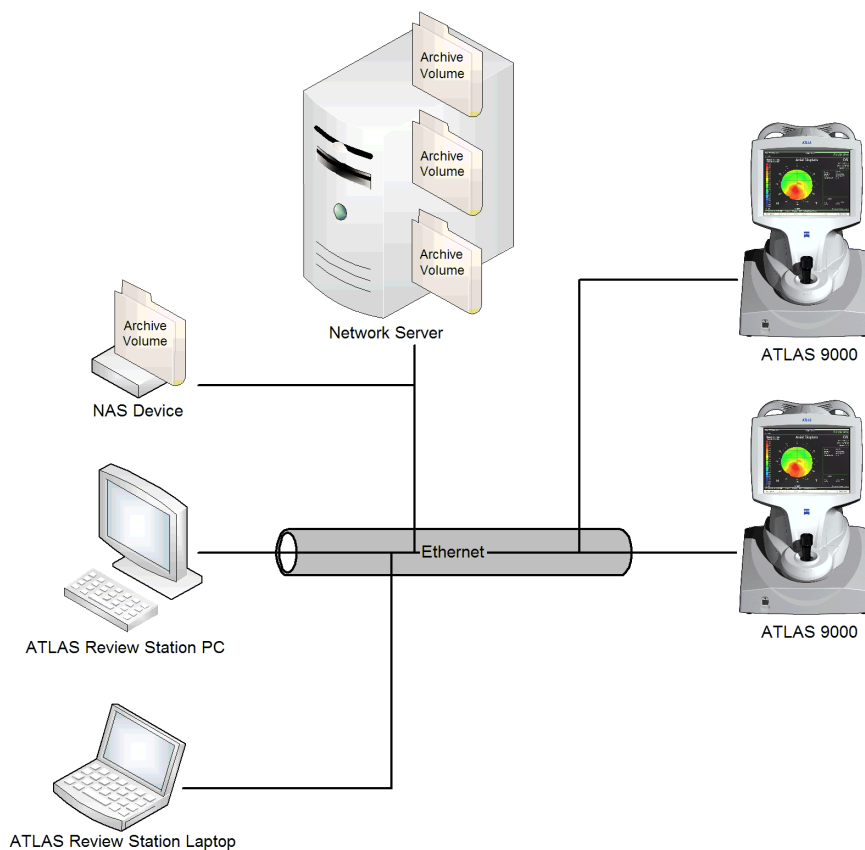
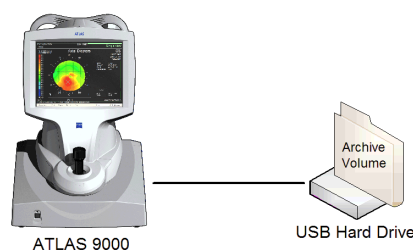

Figure 10-6 Archive Network Diagram
Figure 10-7 USB Hard Drive Archive Diagram
Archive locations or volumes are directories on a network server, network attached storage device (NAS device), or connected USB hard drive (see Figure 10-6 and Figure 10-7).
1. Click **Add**. An Open dialog appears (Figure 10-6).